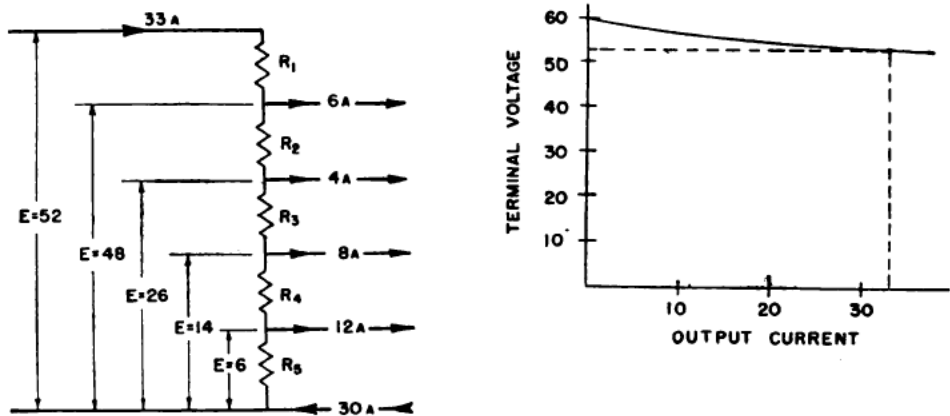

Figure 40.—Regulation characteristics.
The power supply is to be used to operate four different circuits, figure 40, each of which requires separate voltage. The devices in circuit 1 require 6 amperes at 48 volts. Circuit 2 contains devices that
require 4 amperes at 26 volts, circuit 3 requires 8 amperes at 14 volts, and circuit 4 requires 12 amperes at 6 volts. The power supply has the regulation characteristics curve you see in figure 40 (B). Calculate the resistance values required for a voltage-divider circuit.